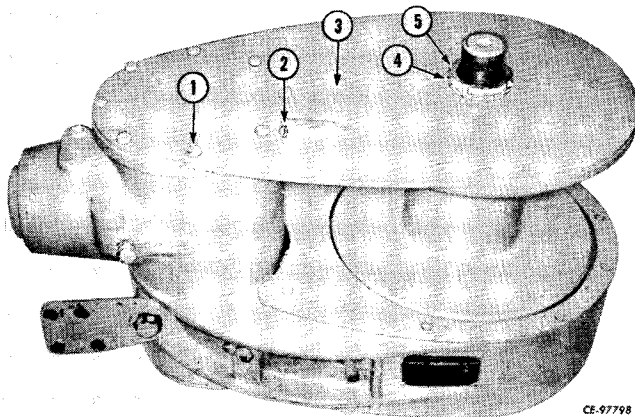

Figure 14-7
Unlock lock washer (4, Fig. 14-7) and using a spanner wrench, remove shaft nut (5). Using an allen wrench, remove set screw (2), spring and friction rod from side plate. Remove cap screws (1) and side plate (3) from winch housing.
Remove winch drum as outlined in Fig. 14-7 and 14-8.